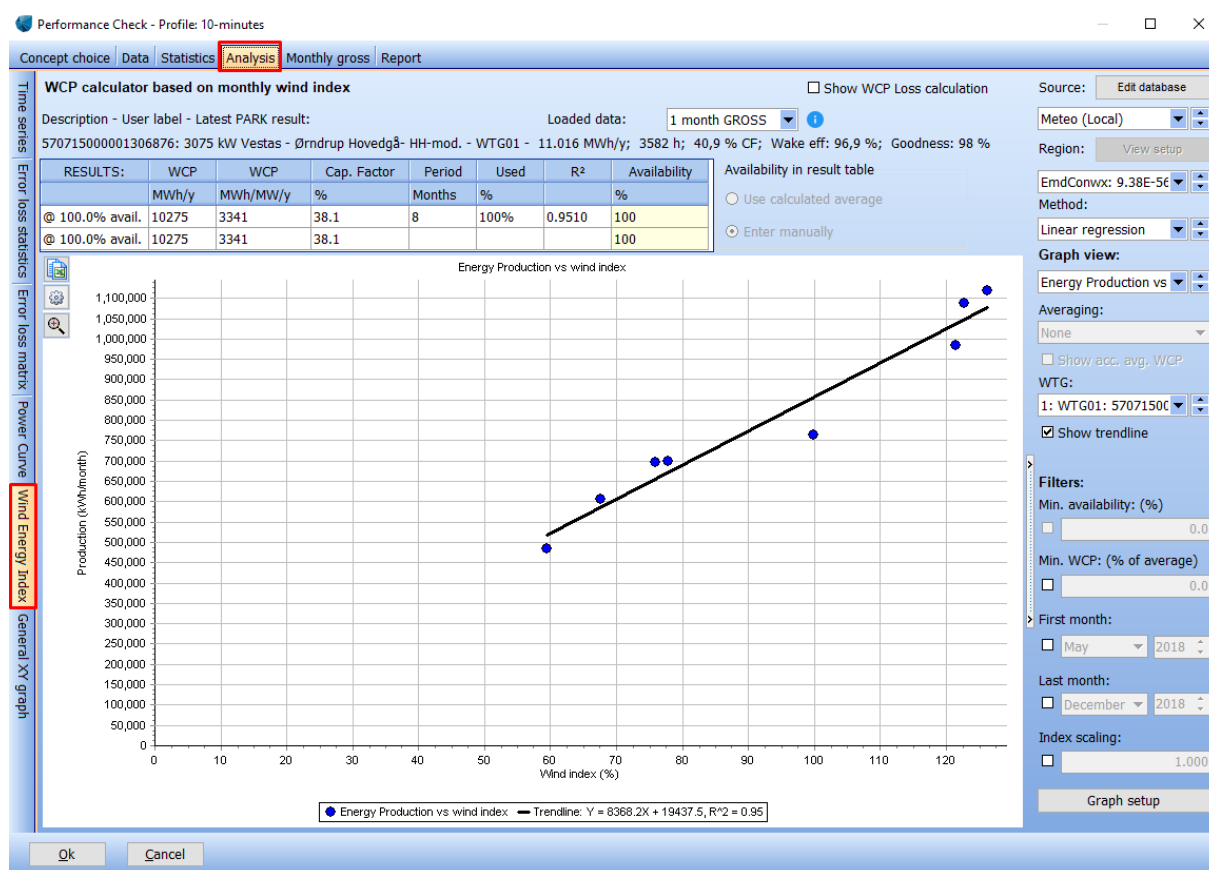

Figure 60: Wind Energy Index tab
**Energy Production vs wind index** plots the monthly potential gross production against a chosen index (see Figure 60).
**All WTGs, AEP Avg + WCP** shows the measured AEP and the wind energy index corrected production for each WTG. If the production data spans a different period than an integer number of years, the measured production is corrected by dividing the production with the number of months (in Figure 60 it is 8 months) and multiplying with 12 months.